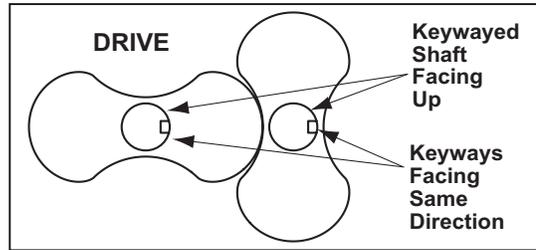

Figure 12 - Keyways
3. Place free end plate on suitable blocking with rotor side up. Stand rotors (1) into each bore with gear end shafts up and keyways facing in the direction shown in Figure 12.
4. Install the gear end plate (4) over the rotor shafts and coming to rest on top of the rotor lobes, being careful not to damage the seals. Recheck the location of the oil sight glass in relation to the drive rotor before proceeding with the assembly.
5. **90/91 series only:** Inspect lapped surface of seal mating ring to be sure it is perfectly clean. Use a soft tissue and cleaning agent if necessary. Place a few drops of lubricating oil on its surface and lubricate the O-ring. Install on rotor shaft with lapped surface down. Slot must line up with pin (300) in rotor shaft. Gently press with fingers to insure compression is taking place and mating ring is not hung up for any reason. Top of mating ring should sit flush with rotor shoulder when fully seated.